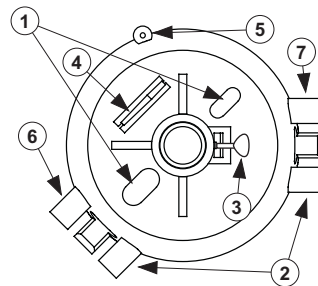

Figure 1: DT-2 Top View
1. Place the DT-2 on the end of a piece of conduit (0.5 in. Conduit) or an extension pole and tighten the thumb screw (#3, Figure 1) to lock it into place.
2. Break away the Tamper Release Pin (#4, Figure 1) from the DT-2 and place it in the Tamper release pin holder (#5, Figure 1).
2. If the detector is a Bosch F220 Series, place the magnet in the slot marked #6 on Figure 1. If the detector is another Bosch model, place the magnet in the slot marked #7 on Figure 1.